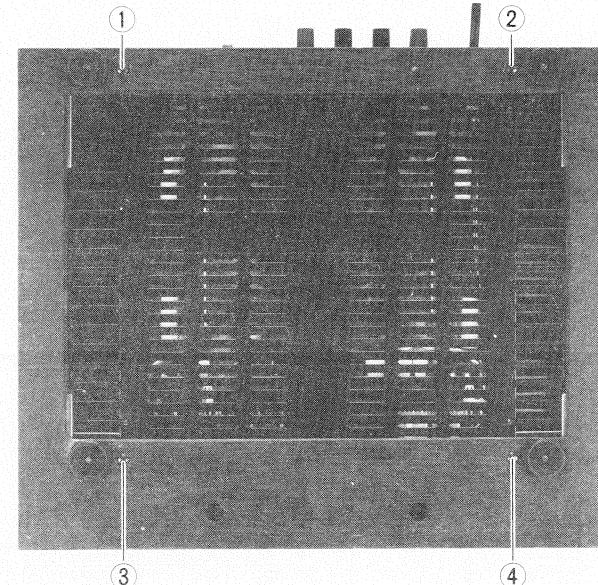

Fig. 1
1. Remove four screws ① – ④ near the foot shown in Fig 1.